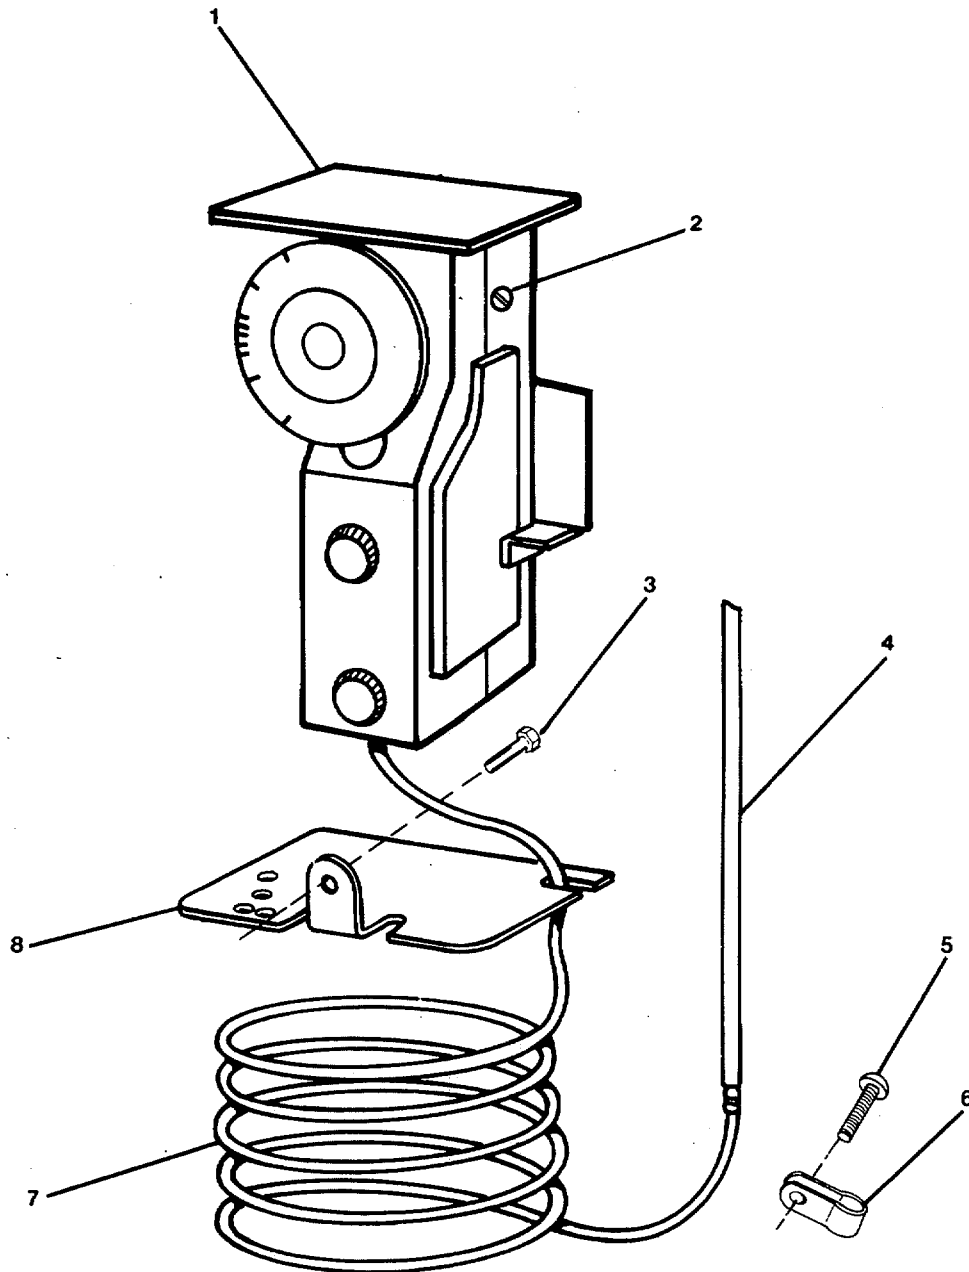

Figure 4-5. *Cooling Thermostat.*
- (8) Connect compressor crankcase connection (7).
- (9) Connect oil pressure line connection (2).
- (10) Coil excess tubing (1) and (6), but allow a small amount of slack to reduce noise.
- (11) Replace cover (5) with screw (8).
- (12) Open service valves and receiver outlet valve to allow refrigerant back into system.
- (13) Restore electrical power and run air conditioner. Check for proper operation. Check refrigerant sight glass and add R-22 refrigerant as required (Item 6, Table 4-1).
- (14) Remove "Out of Service" tag from circuit.
- b. Replace cooling thermostat (1, FIGURE 4-5) as follows:
- (1) Tag and disconnect electrical wiring to cooling thermostat.
- (2) Remove screw (5) from clip (6) to disconnect bulb (4).
- (3) Remove screw (3) and remove bracket (8).
- (4) Remove two mounting screws (2) and remove cooling thermostat (1) with capillary (7) and bulb (4) attached.